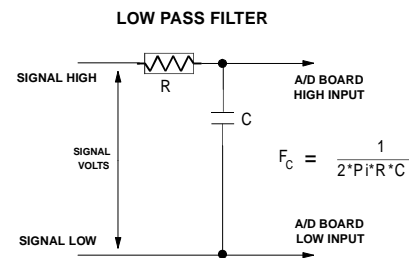

Figure 8-2. Low-Pass Filter Schematic
A simple low-pass filter (Figure 8-2) can be constructed from one resistor (R) and one capacitor (C). The cutoff frequency is determined according to the formula: